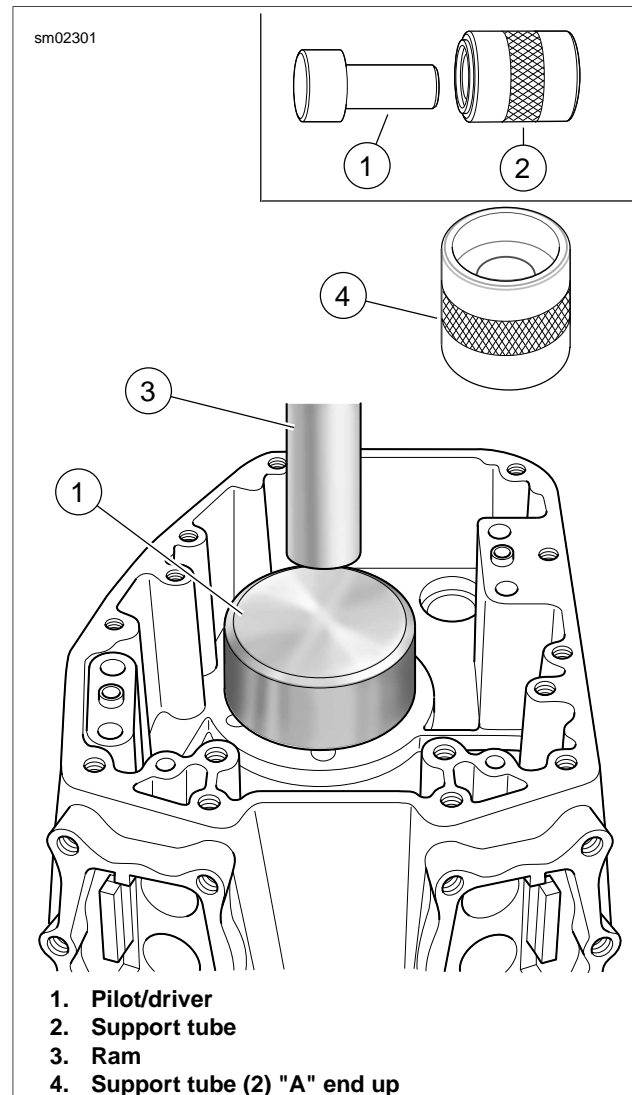

Figure 3-130. Crankshaft Bearing Removal
1. See Figure 3-130. Obtain CRANKSHAFT BEARING REMOVAL/INSTALL PILOT/DRIVER (Part No. B-45655) and CRANKSHAFT BEARING REMOVAL/INSTALL SUPPORT TUBE (Part No. HD-42720-5).
2. Place support tube (2) on hydraulic press table with the "A" end up. Note that the sides of the support tube are stamped to ensure proper orientation.
3. With the outboard side of the right crankcase half facing upward, position crankshaft bearing bore over support tube. During removal it is important that the curved edges on the pilot/driver (1) match the curved edges of the crankcase.
4. Slide pilot/driver (1) through bearing into support tube.
5. Center pilot/driver under ram (3) of press. Apply pressure to pilot/driver until bearing is free.